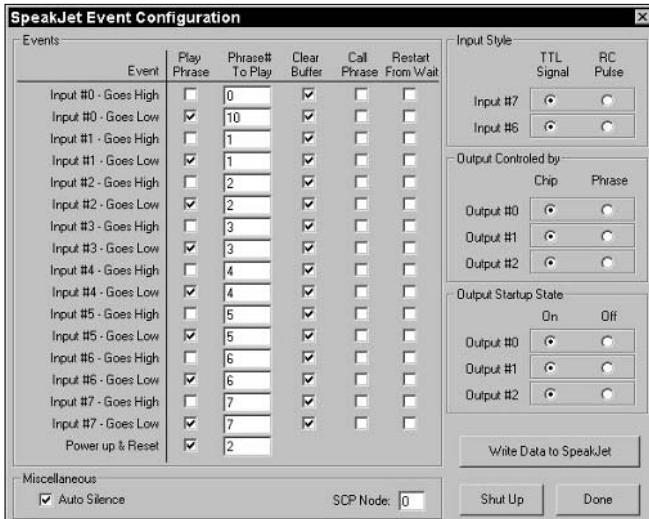

Figure 7-19:
The upcoming Figure 7-19 shows the SpeakJet Event Configuration that we loaded onto our chip. The items in the Phrase# to Play column in this figure indicate phrases that the manufacturer has preloaded.
You do this so that the SpeakJet activates when you first press and then release the switch. See the note and table after these steps for help in choosing which check boxes you must select. (The simple route is to just select all the Goes Low inputs, as shown in Figure 7-19.)
4. With the box connected to your computer, simply click the Write Data to SpeakJet button in the Event Configuration screen of the SpeakJet program (as shown in Figure 7-19).